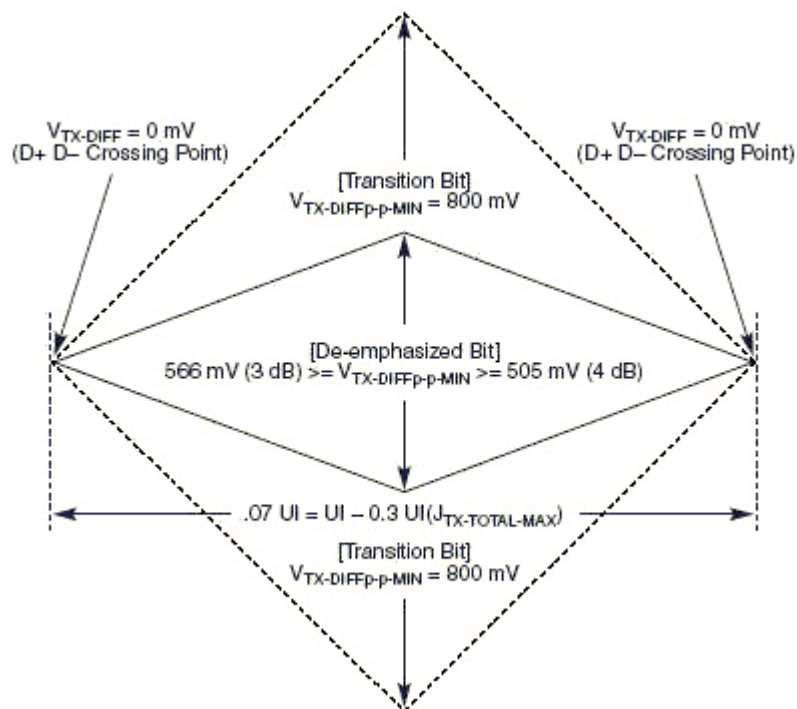
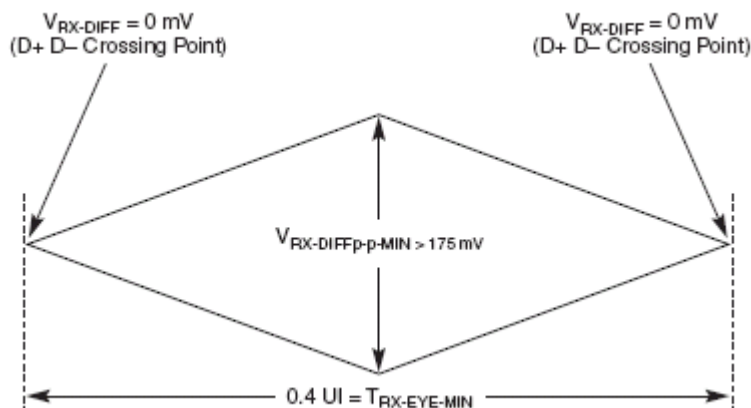
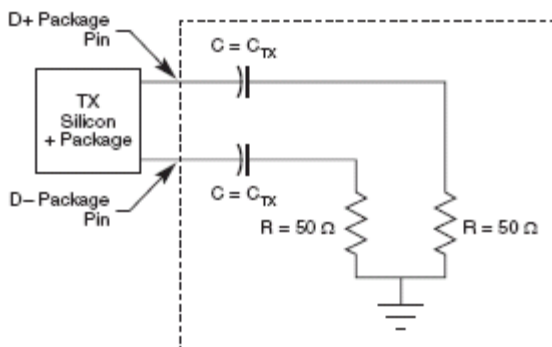

Figure 55. Minimum Transmitter Timing and Voltage Output Compliance Specifications
Figure 56. Minimum Receiver Eye Timing and Voltage Compliance Specification
Figure 57. Compliance Test/Measurement Load
2. Specified at the measurement point into a timing and voltage compliance test load as shown in Figure 57 and measured over any 250 consecutive TX UIs. (Also refer to the transmitter compliance eye diagram shown in Figure 55.)
4. The Transmitter input impedance shall result in a differential return loss greater than or equal to 12 dB and a common mode return loss greater than or equal to 6 dB over a frequency range of 50 MHz to 1.25 GHz. This input impedance requirement applies to all valid input levels. The reference impedance for return loss measurements is 50 ohms to ground for both the D+ and D- line (that is, as measured by a Vector Network Analyzer with 50 ohm probes—see Figure 57). Note that the series capacitors  $C_{\text{TX}}$  is optional for the return loss measurement.
5. Measured between 20-80% at transmitter package pins into a test load as shown in Figure 57 for both  $V_{\text{TX-D+}}$  and  $V_{\text{TX-D-}}$ .
The TX eye diagram in Figure 55 is specified using the passive compliance/test measurement load (see Figure 57) in place of any real PCI Express interconnect + RX component.
2. Specified at the measurement point and measured over any 250 consecutive UIs. The test load in Figure 57 should be used as the RX device when taking measurements (also refer to the Receiver compliance eye diagram shown in Figure 56). If the clocks to the RX and TX are not derived from the same reference clock, the TX UI recovered from 3500 consecutive UI must be used as a reference for the eye diagram.
4. The Receiver input impedance shall result in a differential return loss greater than or equal to 15 dB with the D+ line biased to 300 mV and the D- line biased to -300 mV and a common mode return loss greater than or equal to 6 dB (no bias required) over a frequency range of 50 MHz to 1.25 GHz. This input impedance requirement applies to all valid input levels. The reference impedance for return loss measurements for is 50 ohms to ground for both the D+ and D- line (that is, as measured by a Vector Network Analyzer with 50 ohm probes - see Figure 57). Note: that the series capacitors CTX is optional for the return loss measurement.
The RX eye diagram in Figure 56 is specified using the passive compliance/test measurement load (see Figure 57) in place of any real PCI Express RX component.
Note: In general, the minimum Receiver eye diagram measured with the compliance/test measurement load (see Figure 57) is larger than the minimum Receiver eye diagram measured over a range of systems at the input Receiver of any real PCI Express component. The degraded eye diagram at the input Receiver is due to traces internal to the package as well as silicon parasitic characteristics which cause the real PCI Express component to vary in impedance from the compliance/test measurement load. The input Receiver eye diagram is implementation specific and is not specified. RX component designer should provide additional margin to adequately compensate for the degraded minimum Receiver eye diagram (shown in Figure 56) expected at the input Receiver based on some adequate combination of system simulations and the Return Loss measured looking into the RX package and silicon. The RX eye diagram must be aligned in time using the jitter median to locate the center of the eye diagram.
The reference impedance for return loss measurements is 50. to ground for both the D+ and D- line (that is, as measured by a Vector Network Analyzer with 50. probes—see Figure 57). Note that the series capacitors, CTX, are optional for the return loss measurement.
The AC timing and voltage parameters must be verified at the measurement point, as specified within 0.2 inches of the package pins, into a test/measurement load shown in Figure 57.